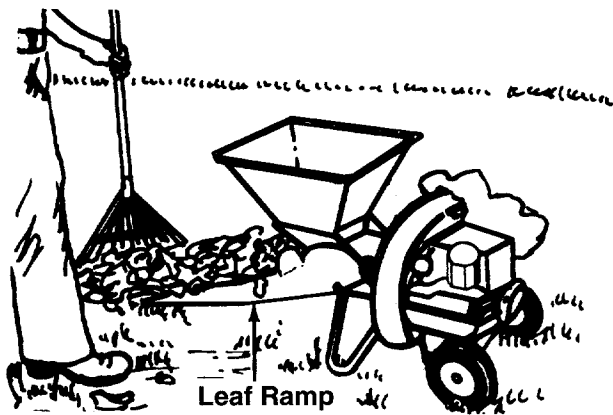
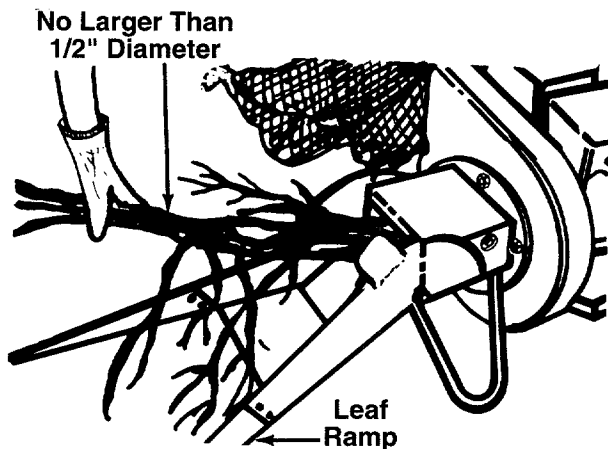

FIGURE 10.
FIGURE 11.
2. Leaves and small twigs can be raked into the shredder when the leaf ramp is lowered to the ground. See figure 10. Small branches up to 1/2" diameter can also be fed into the shredder in this position. See figure 11.